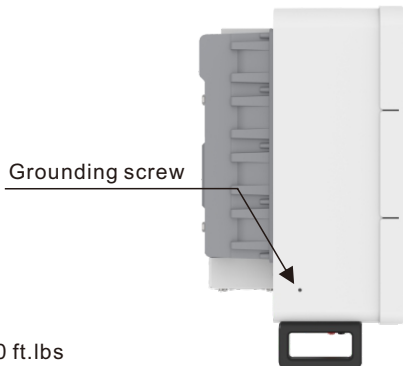

Figure 3.19 Fixed cable
6. Connect the grounding cable to the grounding point on the heat sink, and tighten the grounding screw, Torque is 4.4-6.0 ft.lbs. (see figure 3.19)